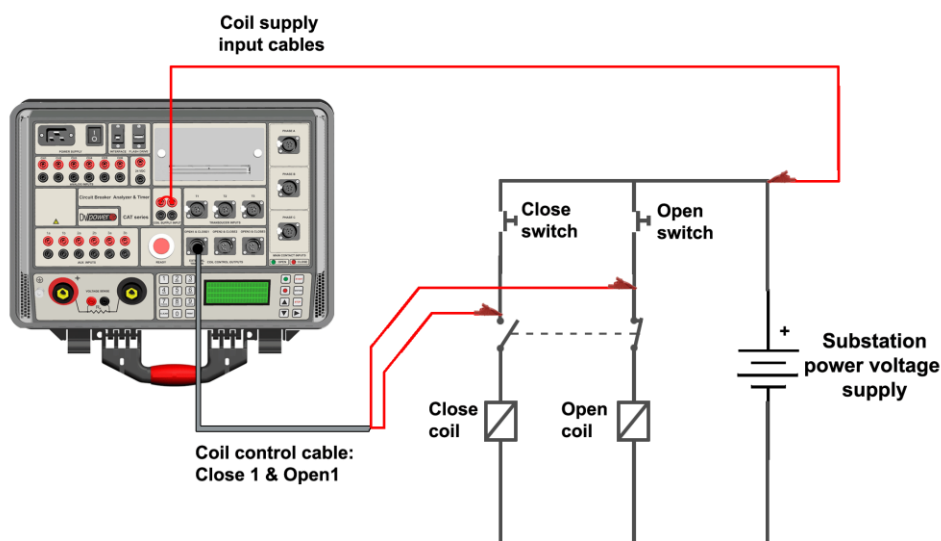

Figure 2. Connection diagram of the coil control cables for three-pole operated circuit breakers with substation power supply used as a power source
Also, it is not necessary to connect black connector of Coil supply input to minus of substation voltage supply source (Figure 2). Coil supply inputs should be short-circuited for CAT devices having two isolated Coil supply inputs.
- Connect the red banana connector of the CAT Coil supply input to the positive pole (+) of substation battery (as shown in the Figure 2).